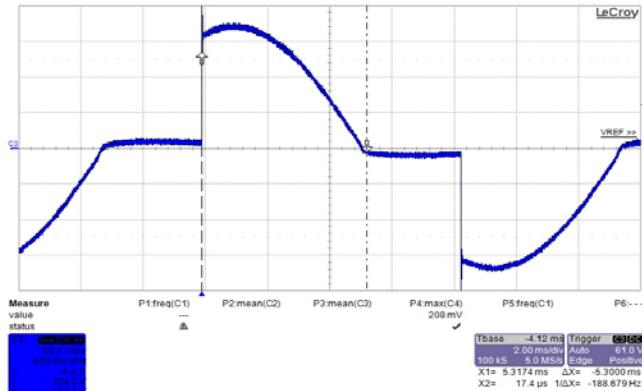
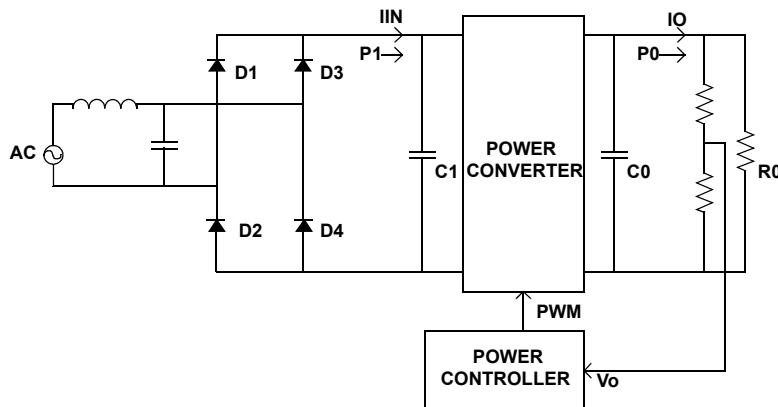

FIGURE 3. TYPICAL VOLTAGE AFTER THE TRIAC DIMMER
FIGURE 4. VOLTAGE FOLLOWER BLOCK DIAGRAM
Unlike the active power factor correction converters, a voltage follower works in discontinuous conduction mode with comparatively constant duty ratio (D) within each utility cycle. There is no need for a PFC controller, or input voltage/current sense circuit. A simplified block diagram is shown in Figure 4. A typical waveform of the voltage after a triac dimmer is shown in Figure 3, where high dv/dt is noticed as the triac is turned on. A small capacitor C_1 is recommended here to filter out the switching noises. C_1 should be very small so that the voltage across it follows closely the rectified input voltage $|V_{AC}|$. An Electrolytic